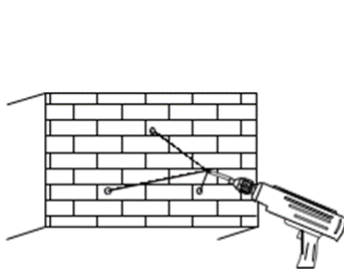

Fig. 2.2B
2. Secure fixture to the wall. (Fig 2-2B-C).